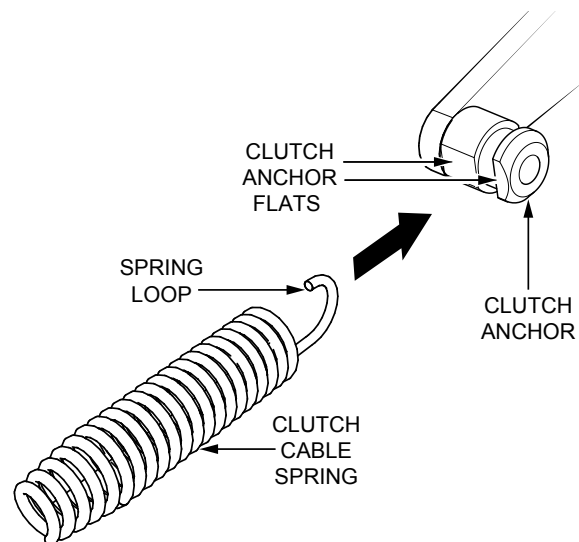

Figure 18. Spring Loop Attachment
9. Connect the clutch cable to the clutch anchor by placing the clutch cable spring loop over the clutch anchor flats as shown in Figure 18. Use needle-nose pliers to slide the spring loop fully into the groove.